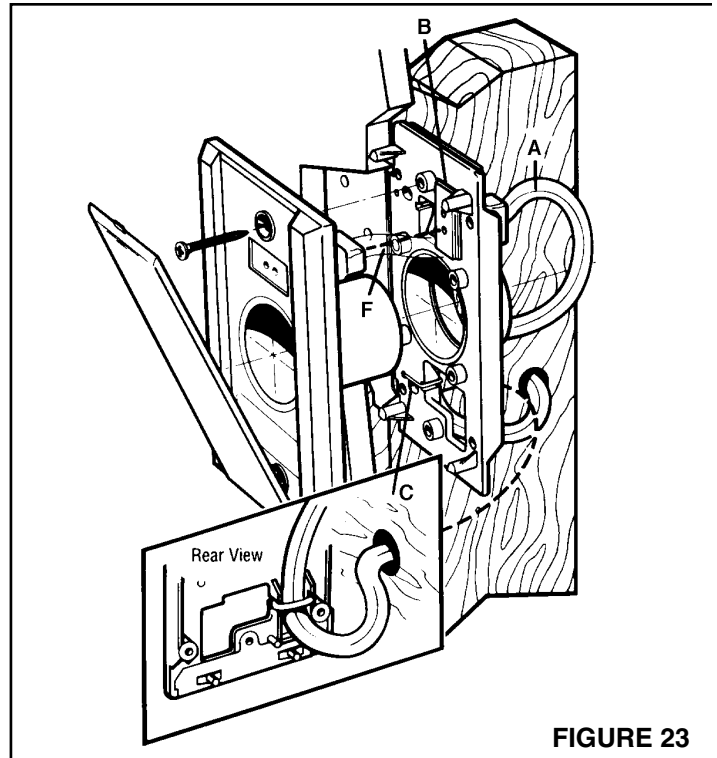

FIGURE 23
See Figure 23.
1. See Figure 23. Fasten the mounting plate to a stud within three studs (48") of an electrical outlet box. Measure and mark the wire 10" from the plug (A). Feed the wire through the top hole in the mounting plate (just above the circular opening). Snap the molded plug into the mounting plate as pictured (B). This will keep it secure and out of harm's way during drywalling and finishing. Line up the wire at the previously measured 10" mark with the strain relief channel on the back of the mounting plate. Secure it in place with the supplied wire tie (C).
2. Run the inlet wire to the adjacent electric box. If you must run wire through a stud, drill directly through the center of the stud (D).